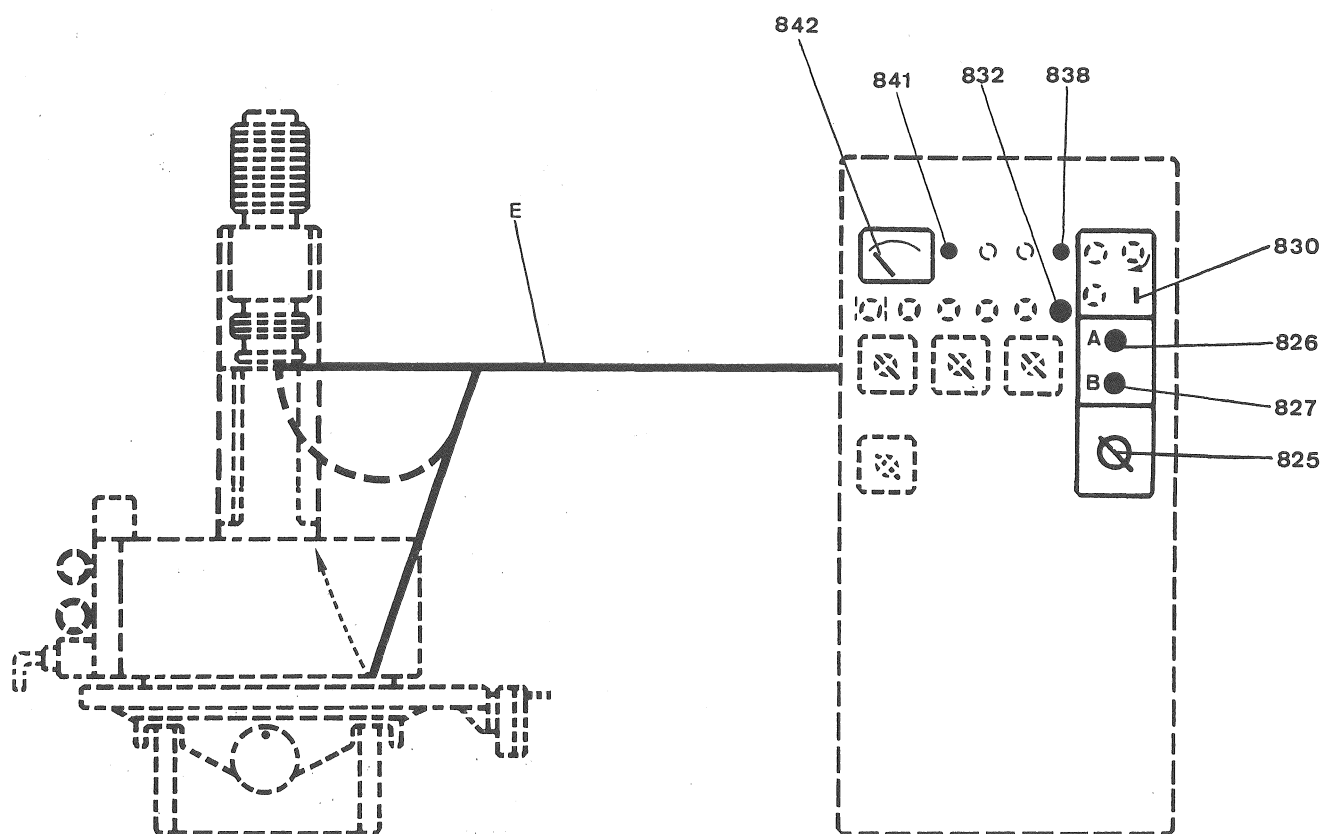

Fig 2
7.3.3 Checking of the generator (fig. 2)
- Set the power rating selector switch (825) to position :